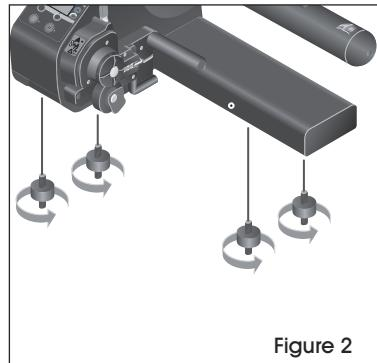

Figure 2
3. Attach the rubber screws to the four holes on the bottom of the machine. (See Figure 2)